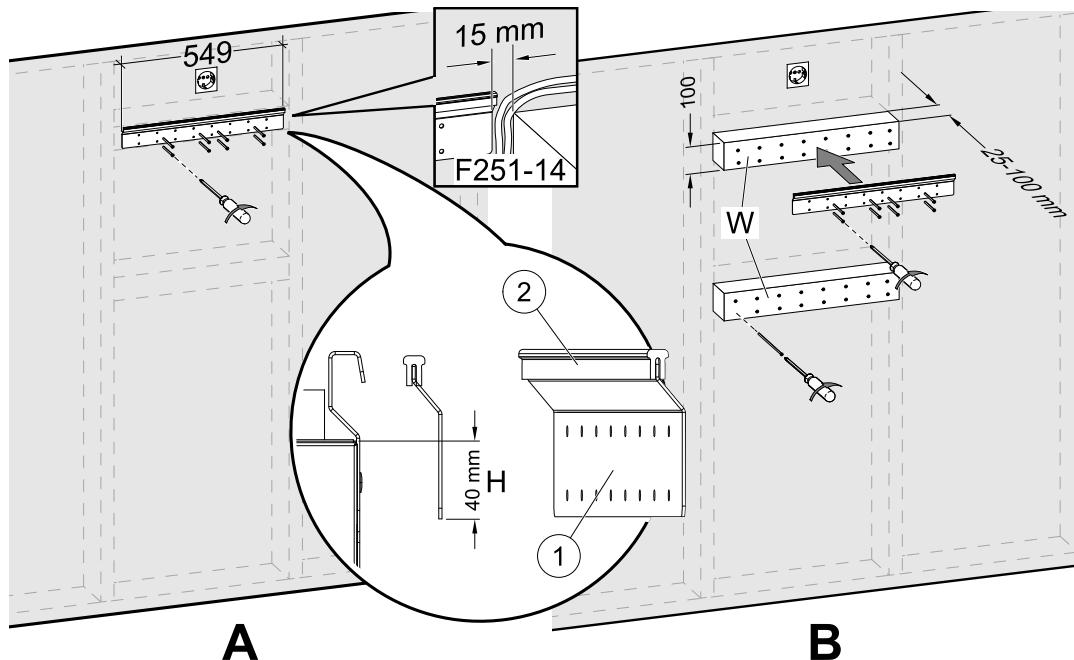

Fig. 6 Installation of mounting bracket without or with wooden blocks
- Screw the mounting bracket (pos. 1) with the anti-vibration pad (pos. 2) to the wall (figure 6, pos. A). **Screws are not included**, choose them based on your wall type. Use appropriate holes to screw the bracket firmly to the wall. Bottom side of bracket should be 40 mm (H) below top of unit position.
In case the depth of cabinets is much greater than the unit, install wooden blocks (pos. W) to compensate the missing distance (figure 6, pos. B). Then install the mounting bracket on the upper block. Choose thickness of blocks according to your needs.